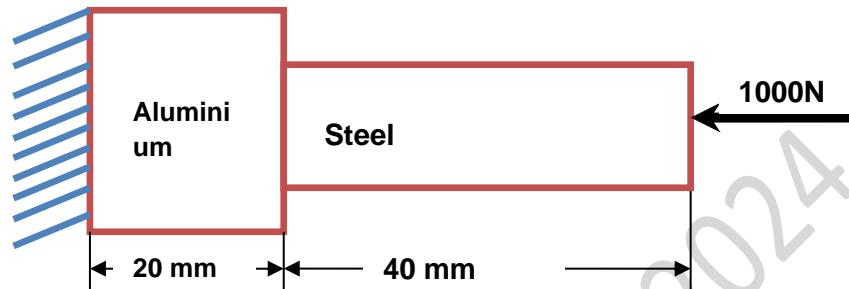

Fig. 3b
b) Determine displacement field, support reactions and stresses for the stepped bar shown in Fig. 3b. $A_{AL} = 40 \text{ mm}^2$, $E_{AL} = 70 \times 10^3 \text{ N/mm}^2$, $A_{ST} = 20 \text{ mm}^2$, $E_{ST} = 200 \times 10^3 \text{ N/mm}^2$. 14